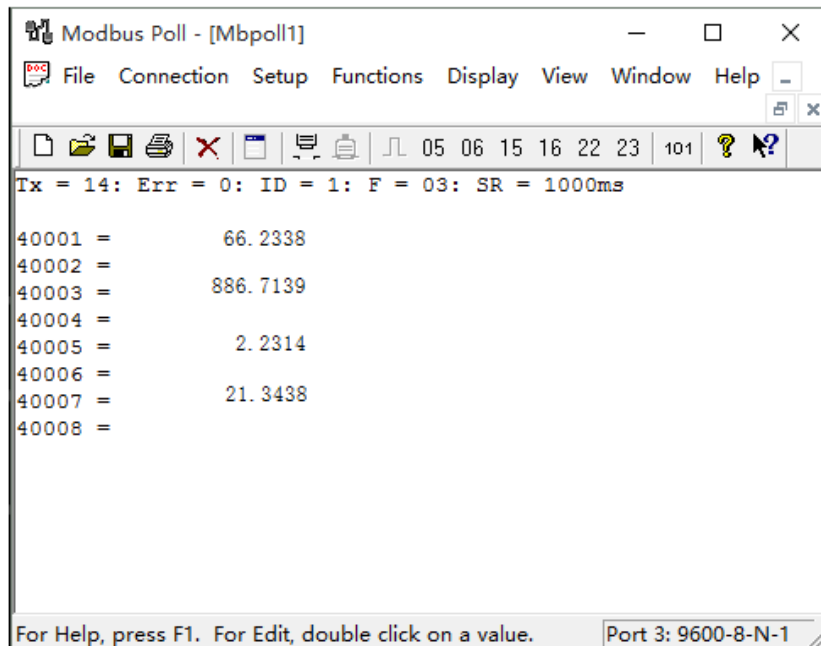

Figure 18 Normal Communication Interface
(5) The setup is complete, and the normal communication interface is shown in Fig. 18. Viscosity 66.2338 cp, density 886.7139kg/m3, dielectric constant 2.2314, temperature 21.3438 °C.